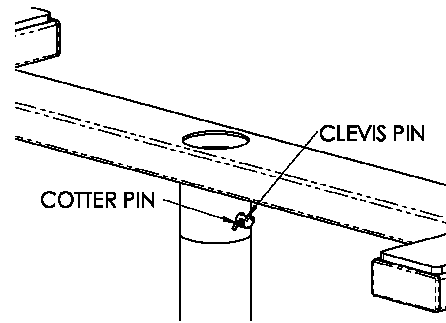

FIGURE 2
2. If you have a 7 foot ceiling, attach the Upper Frame (ITEM-1) directly to ITEM-3 by aligning the holes in ITEM-1 and ITEM-3 and inserting the Clevis Pin (ITEM-6) through the holes. After the Clevis Pin is inserted, place the Cotter Pin (ITEM-7) through the hole of the Clevis Pin and bend the end of the Cotter Pin to secure the Clevis Pin as shown in Figure 2.
3. If you have an 8 foot or 9 foot ceiling, attach the Upper Frame (ITEM-1) to the Extension Tube (ITEM-2) by aligning the holes in the large diameter tube of ITEM-2 with the set of holes in (ITEM-1) and inserting the Clevis Pin and Cotter Pin as previously done in Step 2 and shown in Figure 2.